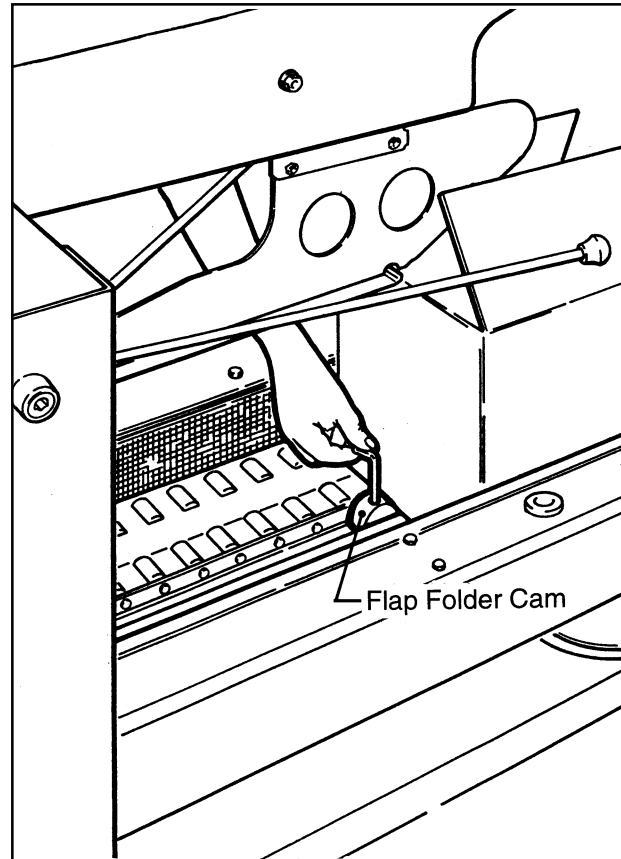

Figure 3-6 – Box Size
2. FLAP FOLDER CAM (Figure 3-6)